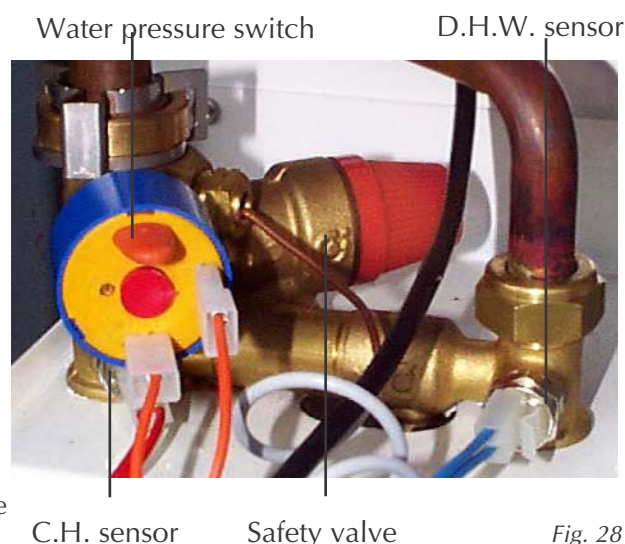

Fig. 28
7.07 D.H.W. temperature sensor or Central Heating Temperature Sensor (fig. 28)
- Identify the sensor from figure 28
7.08 Water Pressure Switch (fig. 28)
- Identify the switch from figure 28
7.09 Safety Valve (fig. 28)
- Identify valve from fig. 28